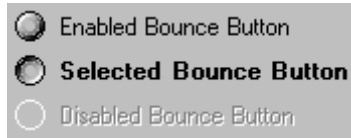

Figure 6-2 Examples of Bounce Buttons
**Bounce** buttons (Figure 6-2) are often called radio buttons. A group of **Bounce** buttons may allow you to make many selections from a group. In other cases, you will be allowed to select only one or a few items.